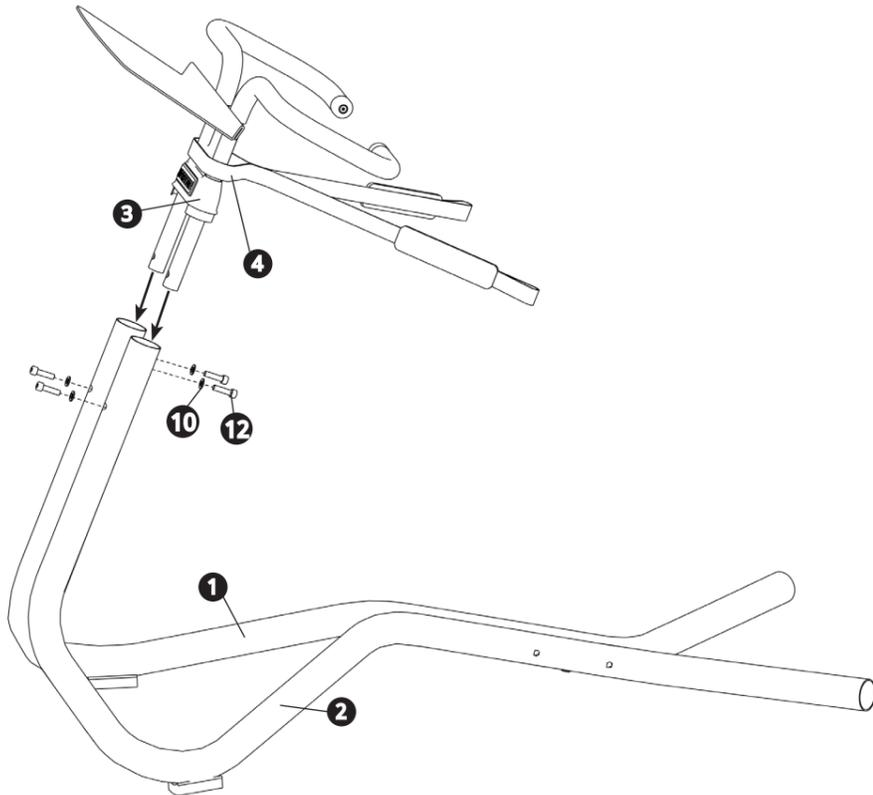

Figure 2. Handlebar to frame assembly
1. Slide the 4 wrist straps up on to the 3 handlebar (Figure 2).
3. Slide the 3 handlebar assembly into the front support tubes of the left and right side frames (Figure 2).
4. Secure the handlebar from the front and back with 4 12 M8 x 30 SHCS and 4 10 9 mm flat washers (Figure 2). Hand-tighten only.